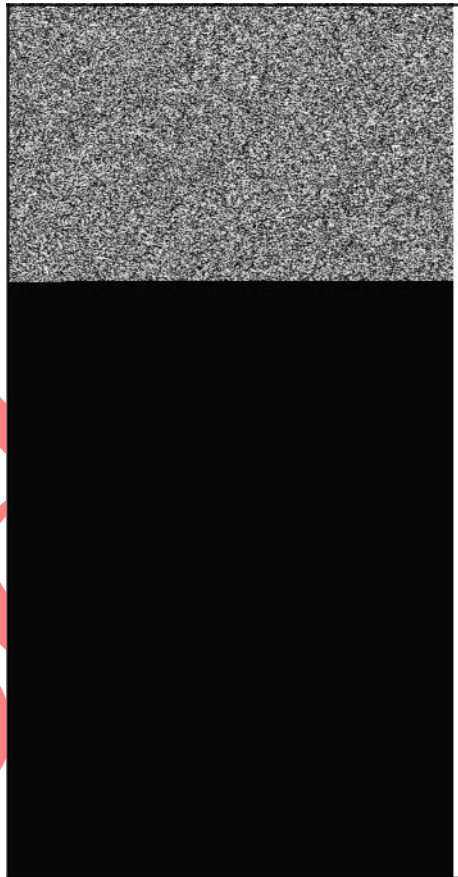

Figure 23
1. Loosen casing clamp screw (A, Figure 23) on intake elbow assembly.